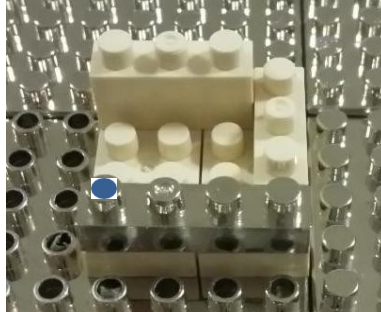

Figure 14 Feed cell location over the dielectric cells
10. The feed cell has a special connection insert (as explained in section 3). This connection insert needs to be located above the pin. The mounted feed cell is shown in Figure 14.